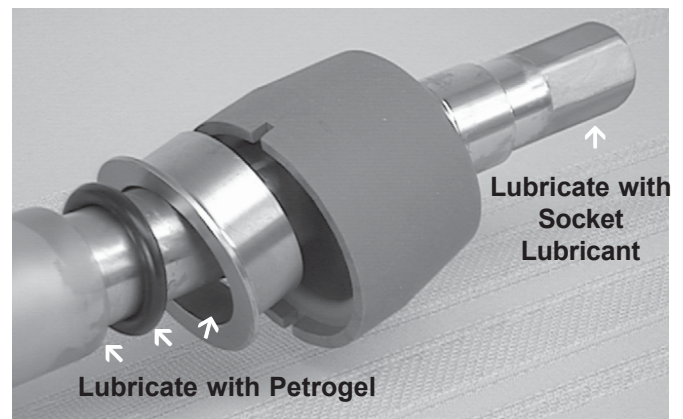

Figure 23. Rear Seal Lubrication
- B. Lubricate rear seal area on auger with a thin layer of sanitary lubricant. Install the rear seal (Figure 23) "O" ring. Lubricate and install rear seal.